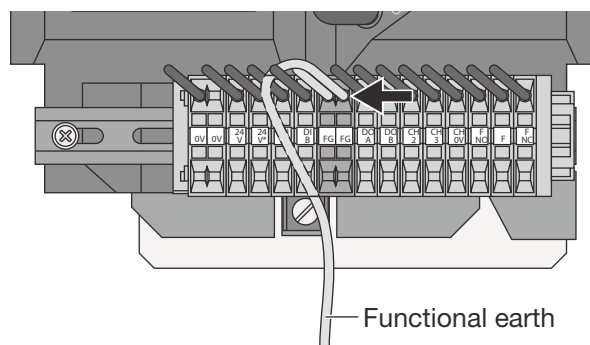
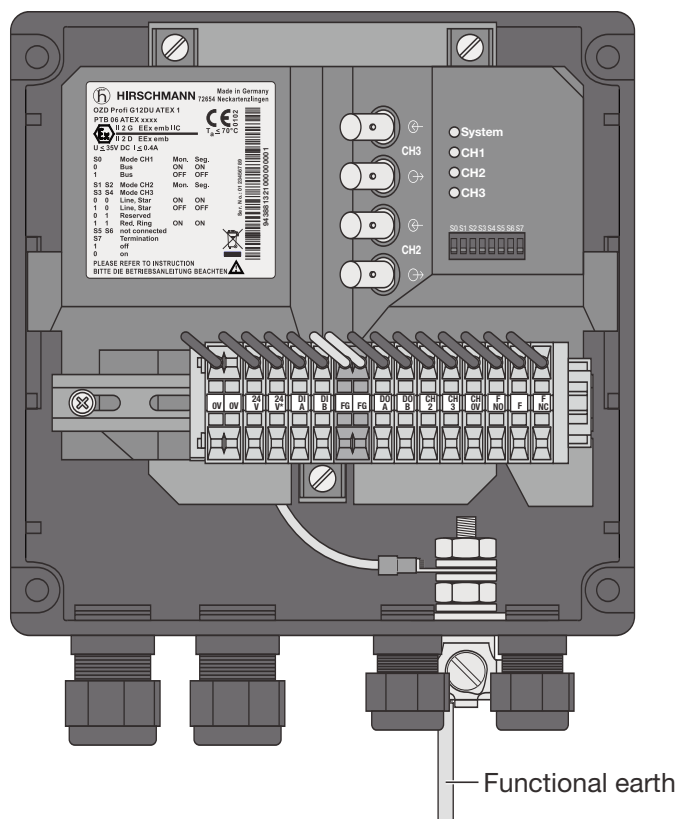

Fig. 24: Terminal block - connection of functional earth for OZD Profi G12DU ATEX 1
Fig. 25: Connection of the functional earth for OZD Profi G12DK ATEX 1 (OZD Profi ... DE ... : analog)
Note: For OZD Profi ... DK ... and OZD Profi ... DE ... the cables are lead on a terminal accessible from outside (see fig 25).
- ▶ Connect the cable for the functional earth for OZD Profi ... DK ... to the terminal block (see fig 24), for OZD Profi G12DK ATEX 1 and OZD Profi G12DU ATEX 1 (see fig 25) to the terminal accessible from outside.